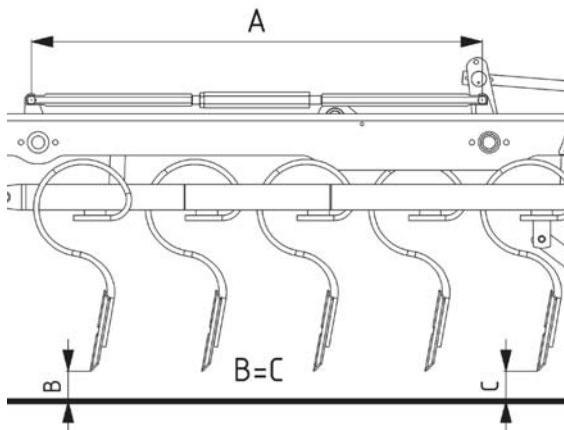

Fig. 17 Tine section adjustment – control replacements
- use wrench (2) to adjust the position of the tine section by changing dimension "A" until dimension "B" and "C" are equal (Fig. 17)